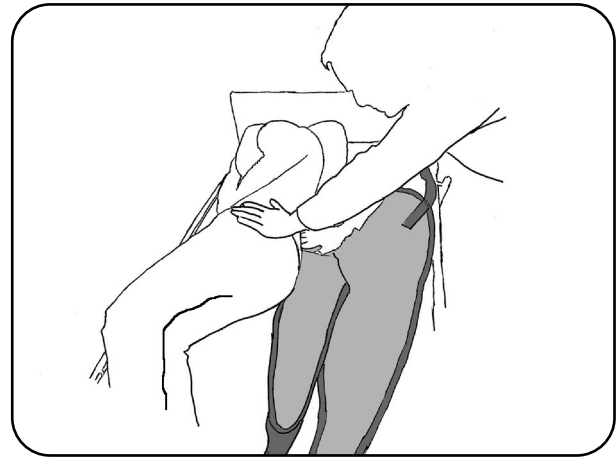

Fig. 9.2.02 - Hoist sling positioned behind the patient's back
5. Fold the hoist sling in half and lay it behind the patient's back. The lower edge should be at the height of the patient's coccyx (Fig. 9.2.02).